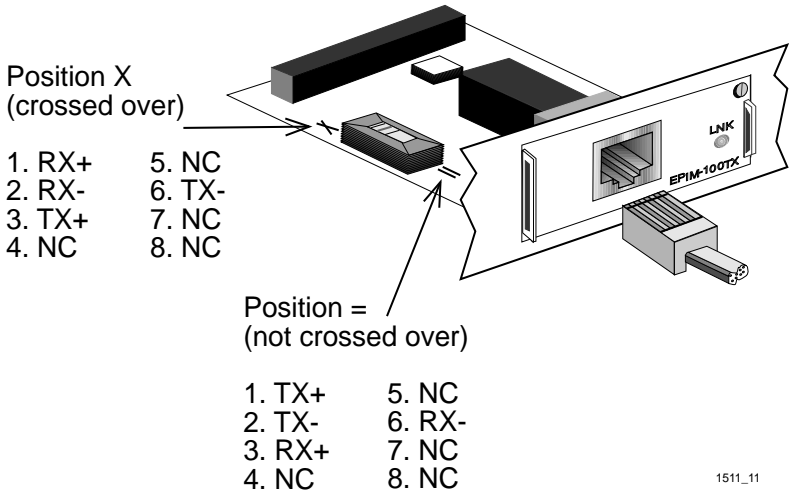

Figure 5-2 EPIM-100TX Crossover Switch
The EPIM-100TX is often used to provide a connection between the SEHI and a bridge, router, or switch. Normally, in this configuration, a “straight-through” cable is used and the EPIM crossover switch shown in Figure 5-2 is set to “not crossed over.”
The EPIM-100TX is also used to provide another RJ45 port to connect to a UTP segment. Before connecting a segment to the EPIM-100TX, check each end of the segment to determine if the wires have been crossed over for the proper connection. If the wires do not cross over, use the switch on the EPIM-100TX to internally cross over the RJ45 port. Refer to Figure 5-2 to properly set the EPIM-100TX crossover switch.
1. Connect the twisted pair segment to the module by inserting the RJ45 connector on the twisted pair segment into the RJ45 port on the module. See Figure 5-2.